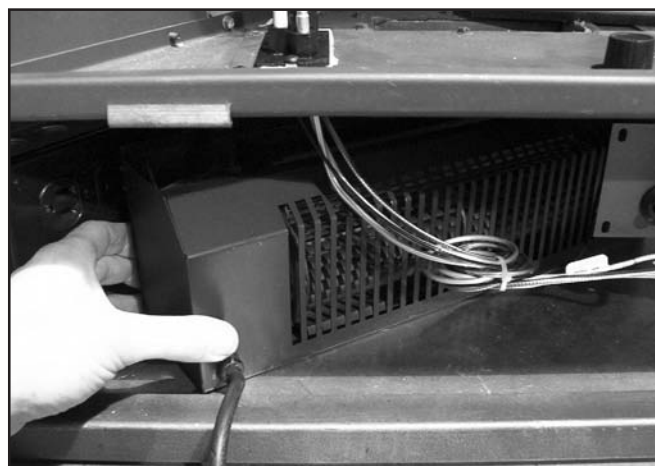

Figure 54. Placing Fan Kit Into DV36
3. Place fan in lower area of unit behind the controls (see Figure 54).